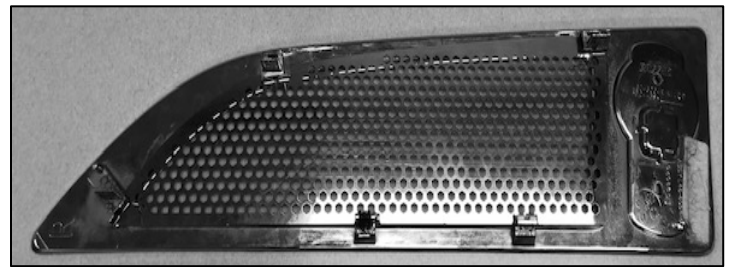

Fig. 2
4. Insert a screen into the vent frame, ensuring five slot openings of the screen are located center of each spring clip tap (Fig. 2).